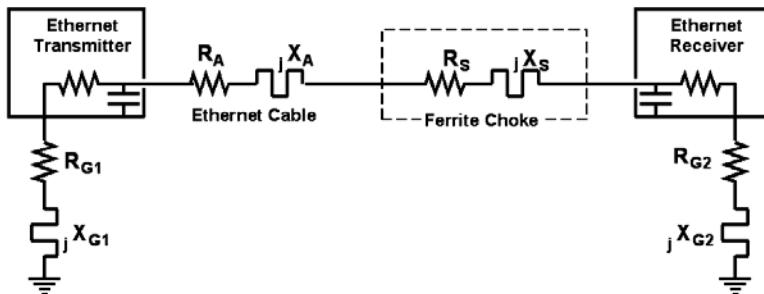

Fig 21 – Ethernet circuit, including "ground"
Fig 21, which includes the impedance of the path to "ground," makes it clear that there can be a lot of variables in this simple problem. Each of the X terms may be capacitive or inductive, and they will have different values at every frequency. Every wire in that series circuit will function as an antenna, radiating any noise current that it carries. Does that mean we must throw up our hands? Of course not. But it clearly shows why coming up with a number for how much suppression a given choke will yield is not a simple matter. Indeed, the best way to learn that for any given circuit is to wind a choke that provides the greatest impedance in a practical package and try it!
In the simple circuit above, the Ethernet transmitter can be seen to feed an unbalanced dipole, where the Ethernet cable is half of the dipole and a connection to "ground" via the power supply is the other! Fig 21 makes it clear that the current path is also a loop. We must never forget that our invisible "ground" circuit can be part of the antenna circuit, contributing both its length and radiation to the problem. And if the Ethernet device is a switch or hub that has multiple outputs, the Ethernet cables connected to each port become part of the equivalent circuit, and because each output includes a line driver, the cables connected to each output need suppression.
**Threshold Effect** Looking again at the series circuit of Fig 21, let's say that for a particular antenna (Ethernet cable) working into a particular piece of gear, the series impedance at the frequency of the interference is  $300 \Omega$ . If we are able to reduce the RF current by 6 dB, (one half), the interference radiated by that cable will also drop by 6 dB in our ham receiver. To do that, a choke must add enough resistance to double the total impedance. In other words, we need to end up with  $600 \Omega$ . But what if the antenna circuit is capacitive and our choke is inductive at that frequency? Some of the impedance we are adding will increase the current because it resonates with the antenna, so we may need to add more than  $300 \Omega$  to hit  $600 \Omega$ ! *How many times have you heard someone say, "ferrite beads don't work on this problem – I added one and nothing happened." In fact, they were simply below the threshold impedance needed in that particular circuit!* Once we've hit that threshold, adding more series impedance continues to reduce the current flow. RF current is reduced by the ratio of the "before" and "after" values of the total series impedances. Since power is proportional to the square of the current, RF noise falls 6 dB per halving of the current flow. If the choke is suppressing the detection of RFI in other equipment (telephones, hi-fi systems, etc.), 6 dB less RF translates into a 12 dB reduction in detected RF (because all detection is square law).